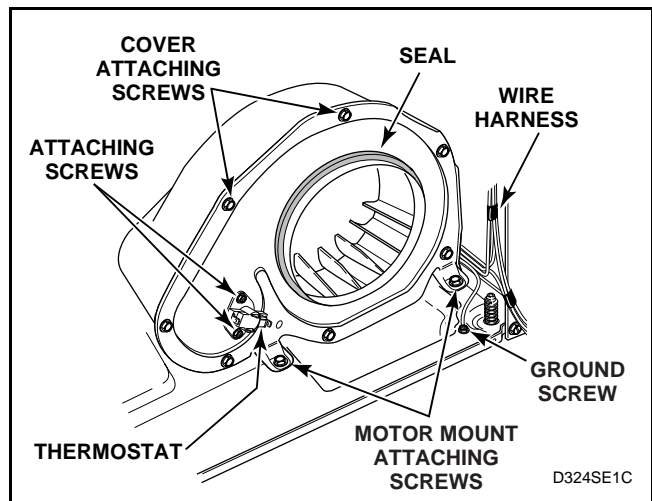

Figure 41
- Disconnect wires and remove thermostat attaching screws and thermostat. See *Figure 41*.
IMPORTANT: When reassembling, be sure seal on exhaust fan cover makes airtight seal on flange of duct. See *Figure 41*. If the seal is installed improperly, the airflow through the exhaust system will be restricted which can adversely affect dryer performance.
IMPORTANT: When reassembling, be sure seal on exhaust fan cover makes airtight seal on flange of duct. See *Figure 41*. If the seal is installed improperly, the airflow through the exhaust system will be restricted, which can adversely affect dryer performance.
- Remove two screws holding motor mounting bracket to dryer base. See *Figure 41*.
- (1.) Remove screws holding cover to housing. See *Figure 41*.